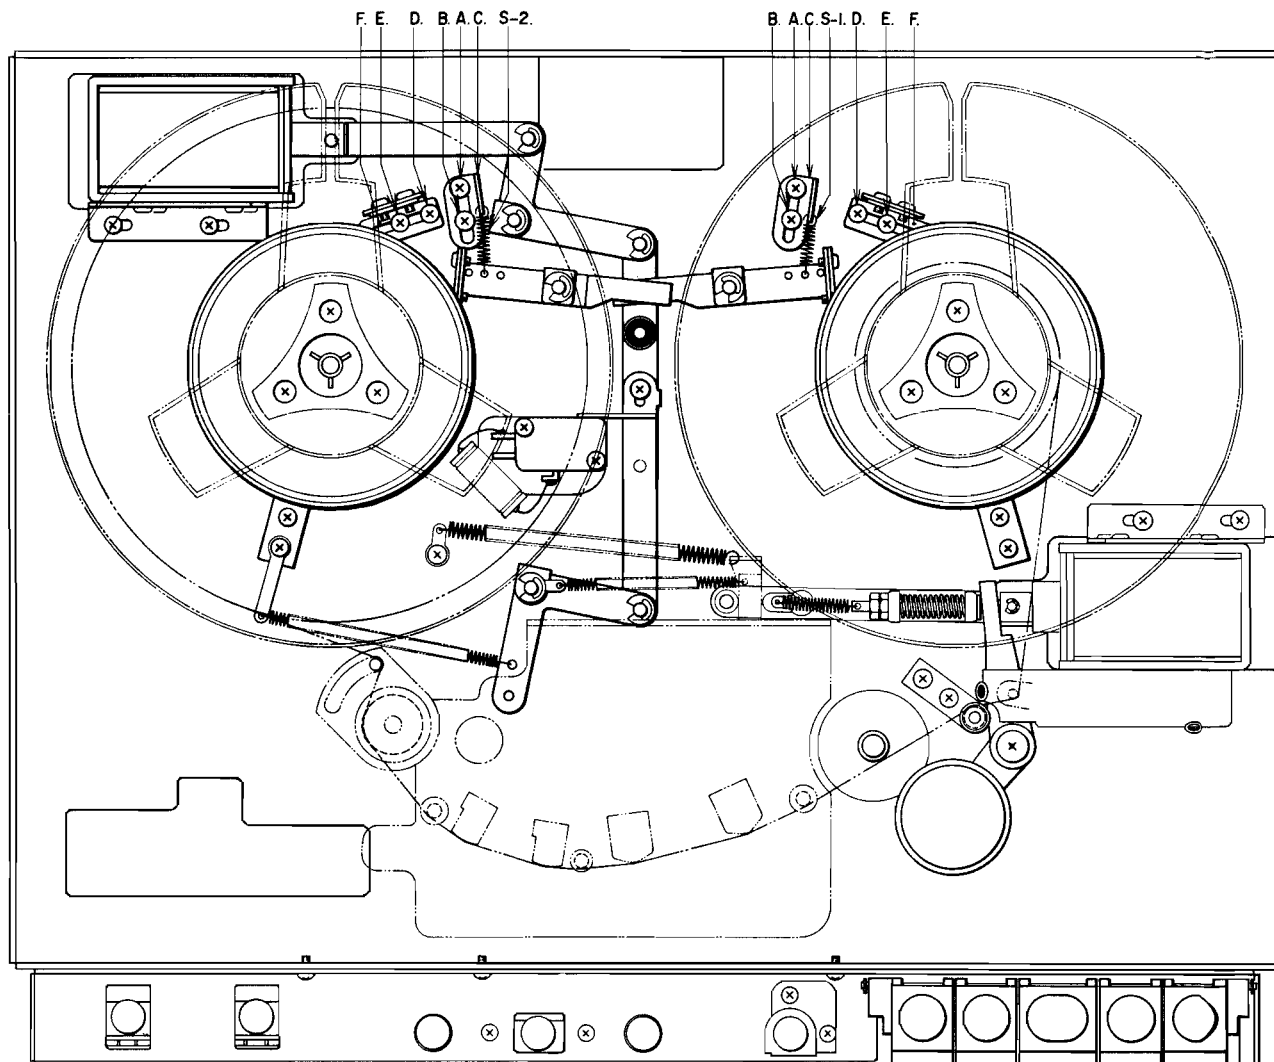

Fig. 21
5. BRAKE TENSION ADJUSTMENT (See Fig. 21)